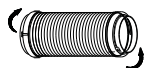

Fig.16
1. Install the adaptor onto the exhaust hose as shown in Fig.16. Refer to the previous pages for window kit installation.